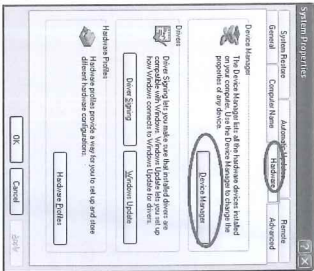

Fig.10
(7) Click Install.
- (8) After finish installing USB-120 connector driver, it will install SE378 software automatically. It will copy SE378.exe (executable file) and help file to your hard disk (default location is c:\program files\SE378)
- (9) After finish installation, plug USB-120 connector to PC usb port, execute "start" → "My Computer", then choose "View System Information" on the left top of the window, the window below will show up.(see Fig.10)